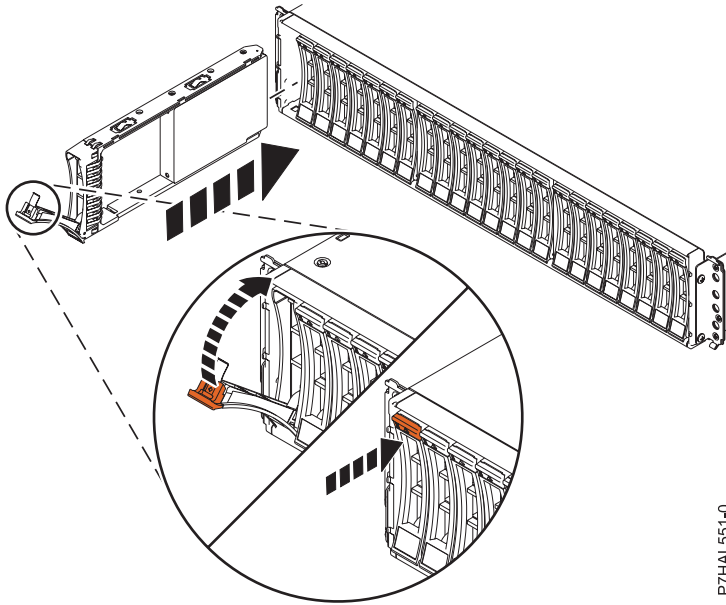

Figure 11. Installing the disk drive in the 58/87 disk drive enclosure
1. With the handle in the unlocked position, as shown in Figure 11 on page 20, support the bottom of the drive as you align it with the guide rails in the expansion unit.